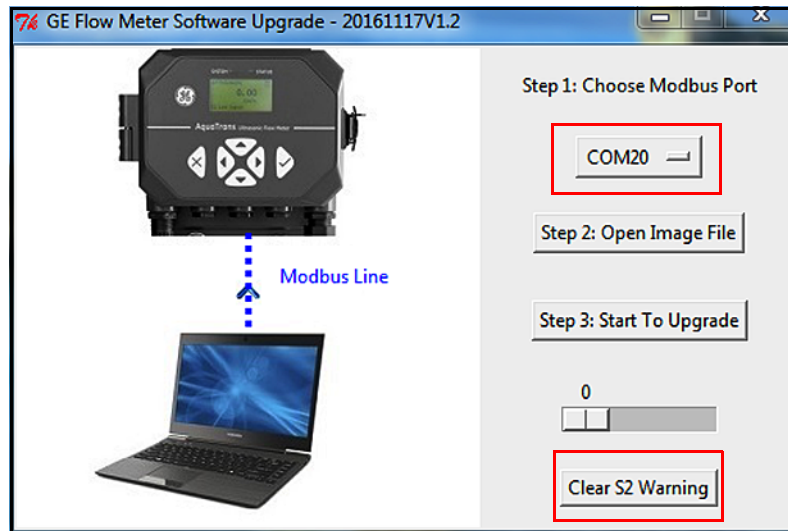

Figure 39: Clearing an S2 Warning
1. In the update software, click on the Com Port button and select the specific port that was used for the update (see top red box in *Figure 39* below).
2. Click on the Clear S2 Warning button (see bottom red box in *Figure 39* below).